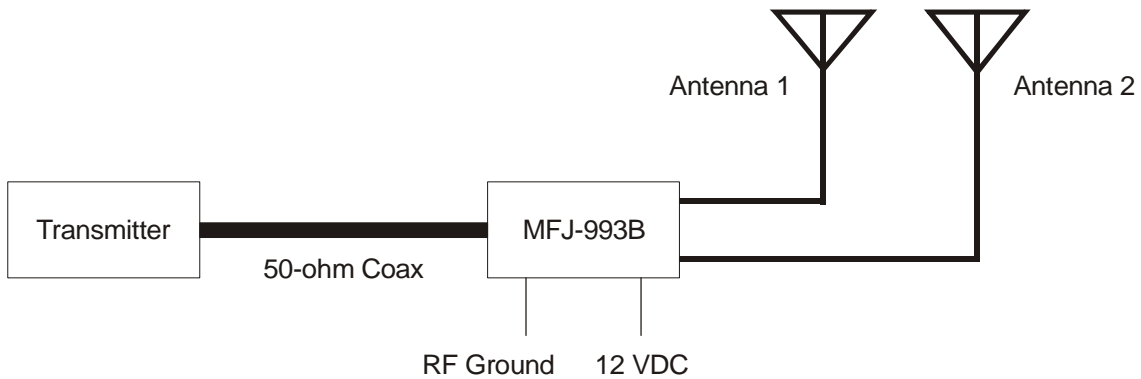

Figure 1. Typical Installation Block Diagram.
2. Connect the tuner to the transceiver or amplifier with 50-ohm coaxial cable (such as RG-8/U). See Figure 1 on page 4.